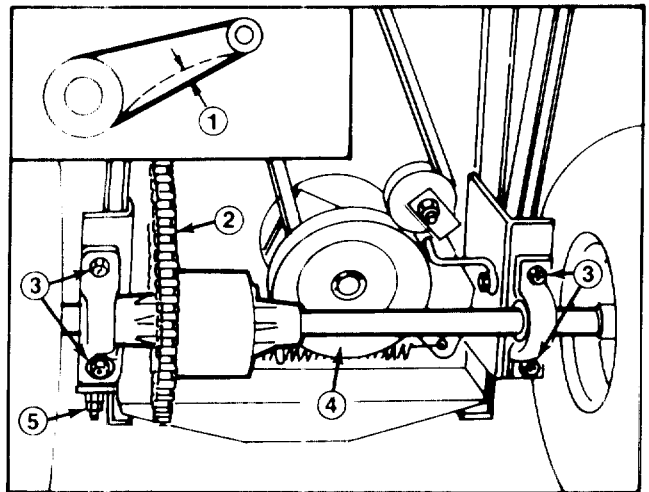

Figure 26
1. Check deflection of drive chain by lifting up on chain with moderate pressure at mid span (Fig. 26). There should be 1/8 of an inch (3 mm) deflection (Fig. 26). If deflection is not as specified, an adjustment is required — steps 2-13.
on top of 2" × 4" blocks (Fig. 26). Wheels must be off the floor so axle can be moved.
6. Loosen four flange nuts securing pillow blocks w/ differential axle to the rider frame (Fig 26).
7. Loosen rear jamnut on chain tensioner (Fig. 26).
10. Since differential axle must be parallel to rear of chassis, measure distance from center of pillow blocks to rear of chassis (Fig. 26). Difference between the two measurements must not exceed 1/4 inch (6 mm). If difference exceeds 1/4 inch (6 mm), differential axle is not parallel with chassis; therefore left side must be repositioned to attain desired dimension. Tighten lock-nuts securing left pillow block to rider frame.